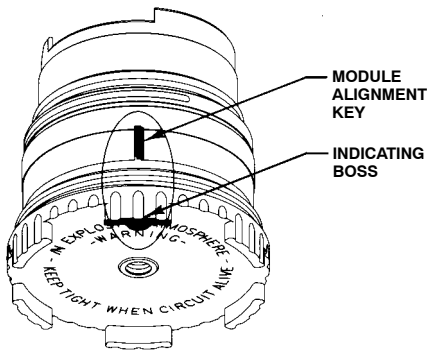

Figure 6-2. Alignment Key Above Module Cover Indicating Boss
2. Prepare to remove the module final assembly from the module cover. Align the module feet with the two interior cover slots. To accomplish this, identify the indicating boss on the module cover, shown in figure 6-2.
Grasp the module cover with one hand and the module final assembly with the other hand. Rotate the module final assembly so that the module alignment key is directly above the indicating boss on the module cover. Figure 6-2 shows the module alignment key and the indicating boss. The module feet are now aligned with the cover slots.